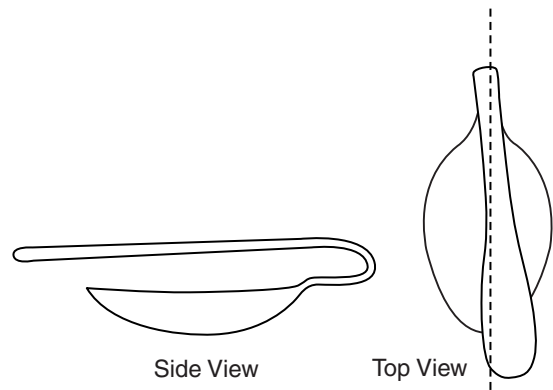

Figure 1. Bent Spoon Handle
2. Using pliers or your hands, bend the handle of the spoon so that it folds over the bowl of the spoon. Refer to Figure 1. When the handle is properly bent over the bowl, the spoon should remain balanced on the middle of the curved bottom of the spoon.
3. Once the spoon handle has been adjusted so that the spoon remains balanced while resting on its curved bottom, bend the handle of the spoon so that it is slightly skewed from the invisible center line running the length of the spoon's bowl (refer to Figure 1). Bend slightly and make sure the spoon remains balanced on the curved base.
- If the spoon handle is slightly skewed to the left of the invisible center line of the spoon's bowl (opposite to bend shown in the Top View of Figure 1), the “natural” rotation of the celt spoon will be clockwise.